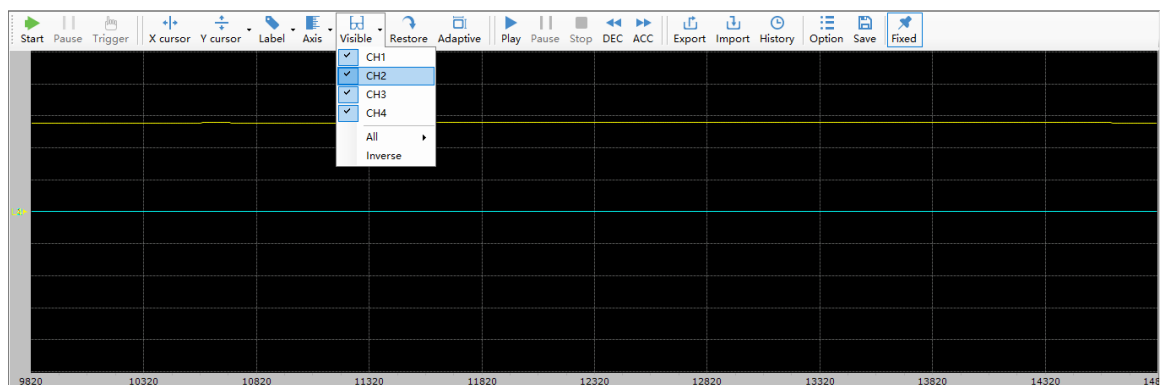

Figure 26
1. Clicking on the toolbar icon  , such as removing CH2, Y axis curve corresponding to the curve 2 will be automatically hidden in the graphics; as shown in Figure 26: